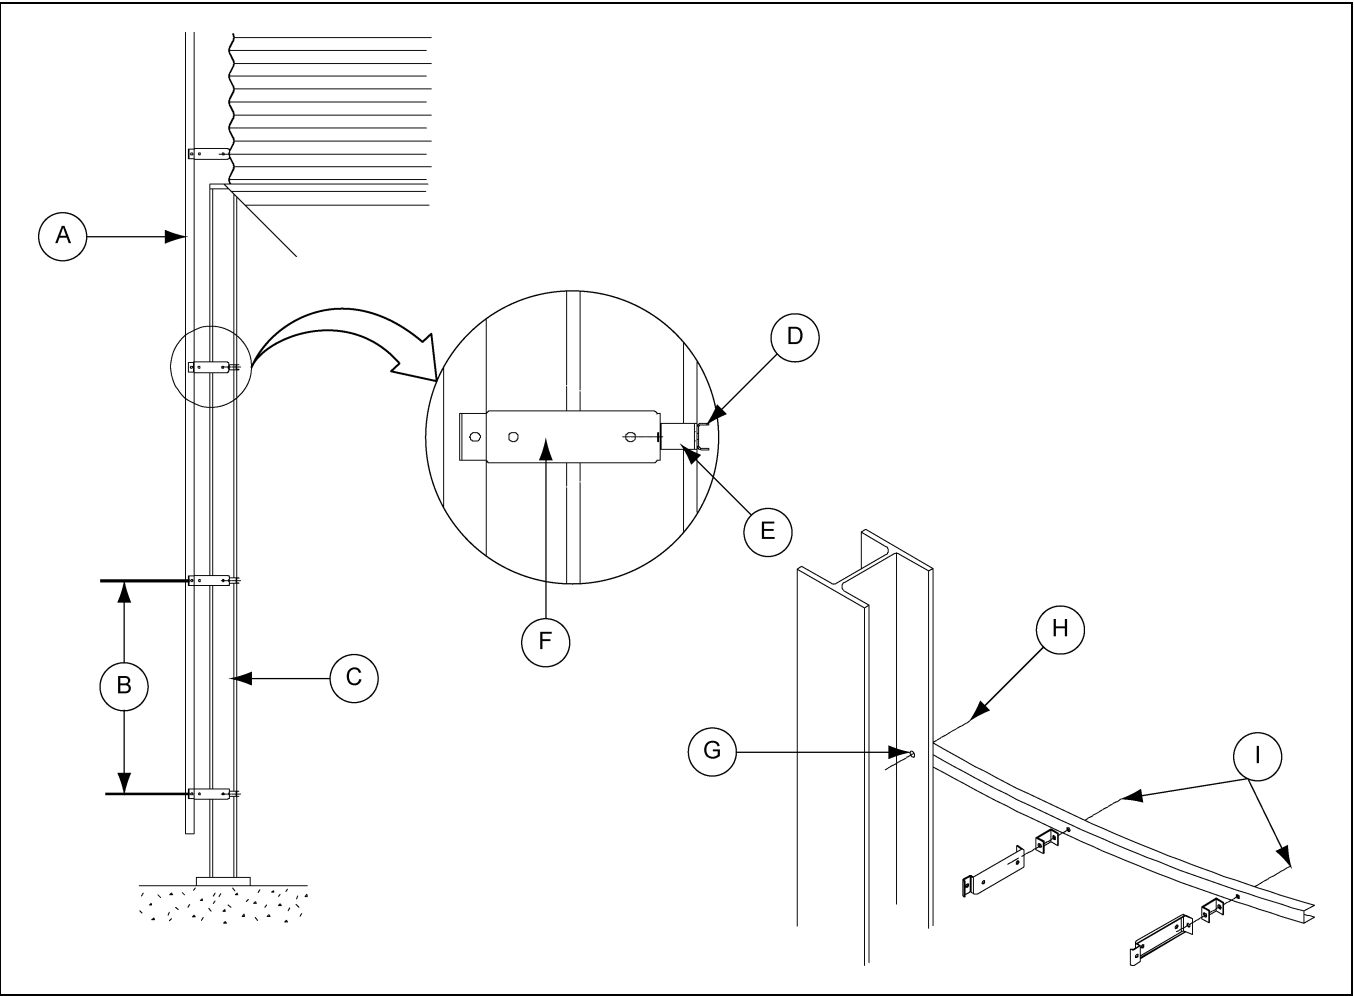

Figure 14A
The ladder (A) must be secured to the hopper support columns (C) with ladder standoff brackets (F) using support channels (D) and ladder brackets (E) as shown in Figure 14A.